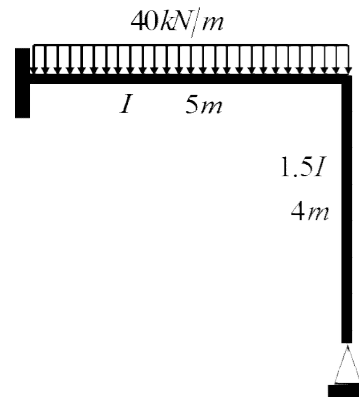

Fig.3
- b) Differentiate between moment distribution method and Kani's method. (7)
- 6 Analyse the 2D frameshown in Fig. 3, using Kani's method. Draw BMD. (15)